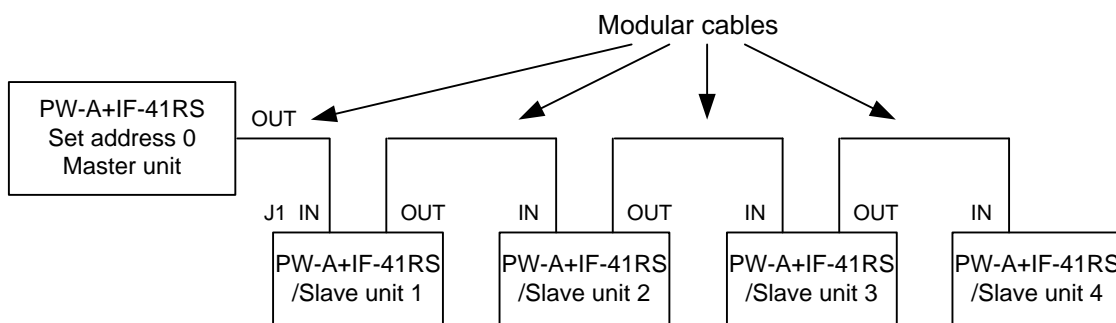

Fig.22 Computer Control Using IF-41RS
- If a PW-A power supply unit with a built-in IF-41RS is set to address 0 and connected as the master unit as shown in Fig.22, operations of the master unit are reflected upon four slave units. The operations shown below are reflected upon four slave units:
- ① Setting of the DISPLAY/STATUS key (Selection of channels whose set value or output values are to be displayed).
- ② Selection of PRESET 1 to PRESET 4.
- ③ Turning on and off the MAIN OUTPUT key.
- ④ Setting of each OUTPUT SELECT key.
- ⑤ Turning on and off the delay function and delay time of each channel.
- ⑥ Set voltage and current of each channel.